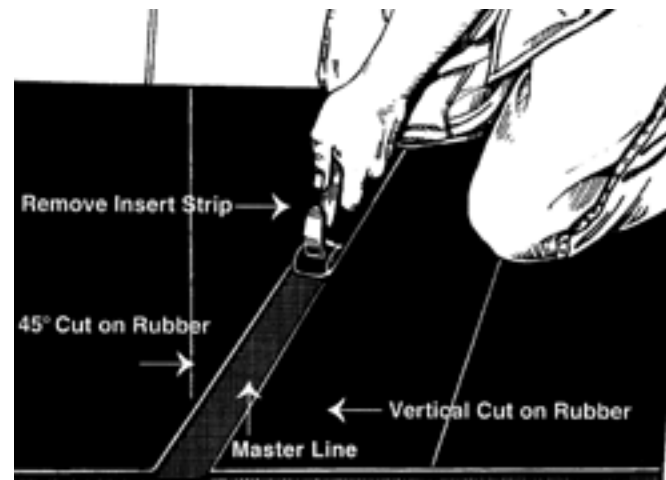

Fig. 5-8: Removing insert strip, note position of master line, and angle cut.
13. Remove cover strip. Note the one skived cut and one vertical cut in the cover (Fig. 5-8).